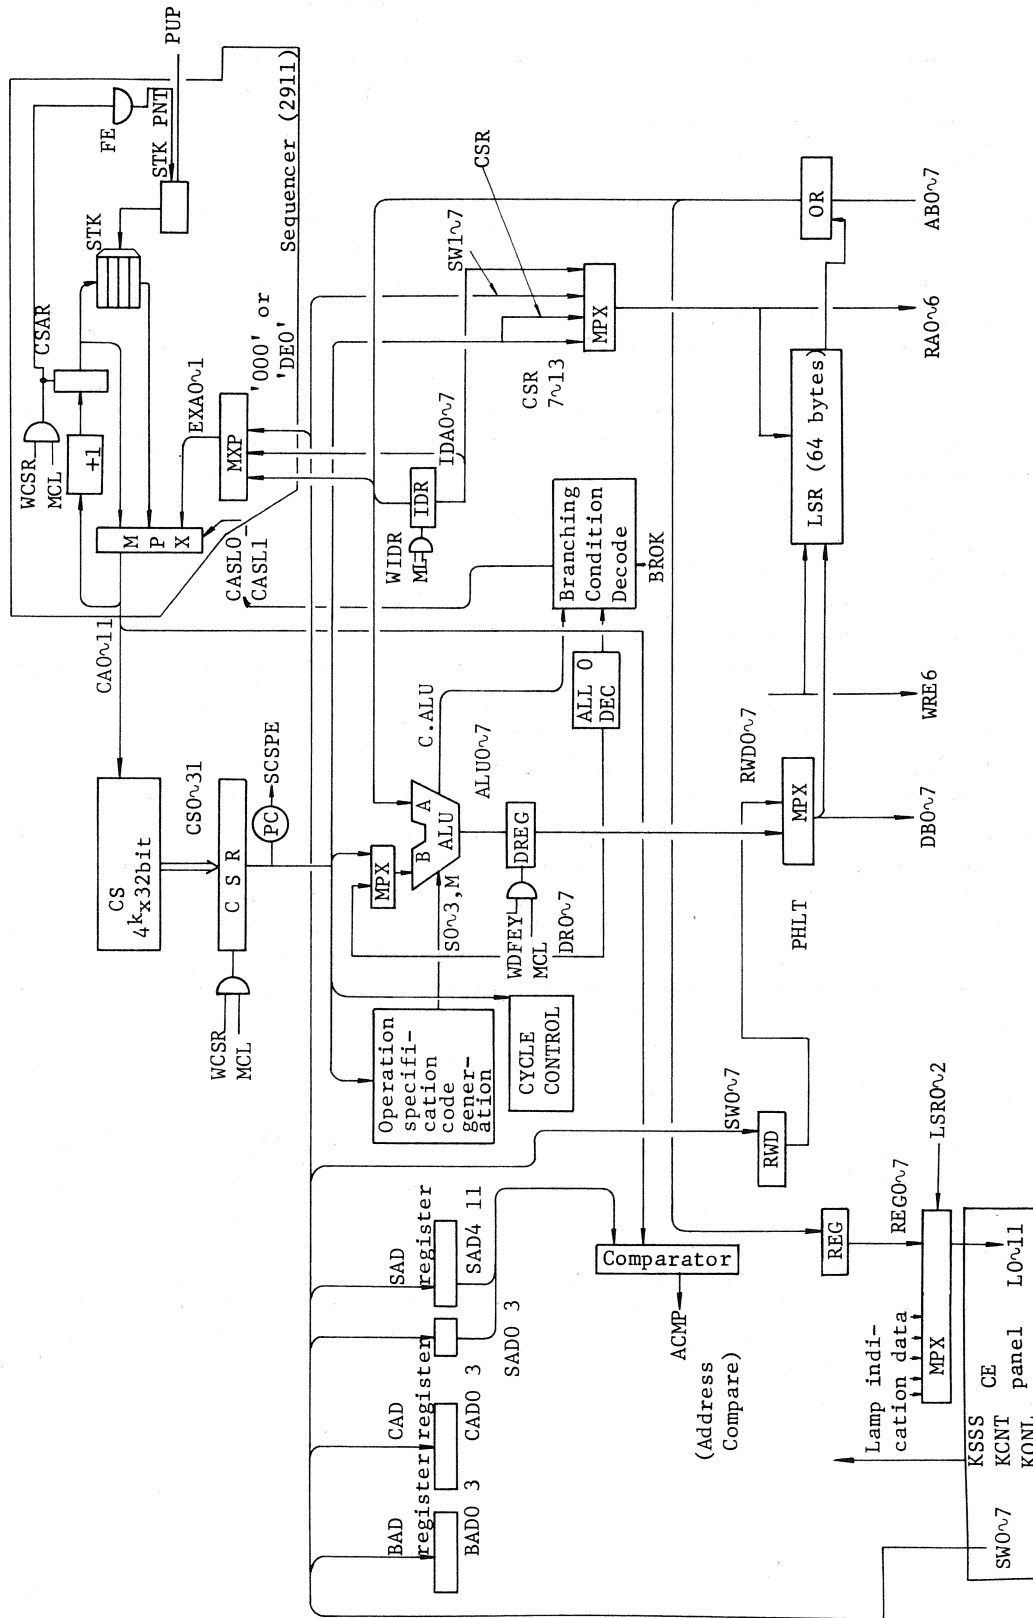

Figure 4.5 Microprocessor configuration
Figure 4.5 is a block diagram of the microprocessor configuration. Table 4.3 shows the major performance characteristics of the microprocessor. This microprocessor, a 32-bit fixed/variable length instruction type processor, is so configured that it can execute a microprogram of up to 4K steps. The microprocessor fetches an instruction from the control storage (CS) section into the CS register (CSR); decodes the instruction; processes and evaluates data on the LSR/EXR; stores the data; jumps to a specified step. The sequencer controls the program flow by advancing steps one by one, jumping or branching to a specified step, and stacking control information and data upon a Subroutine Call/Return. The sequencer also contains the microprogram address register (CSAR: CS address register).